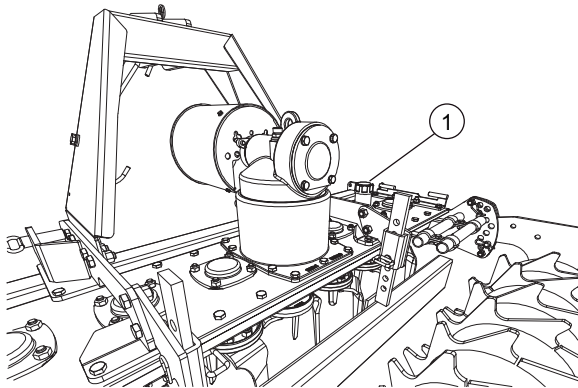

FIG. 27
Loosen the oil filler cap on the trough (1, “Fig. 27”).
- Loosen the oil filler cap (“Fig. 27”).
- Tighten the oil drain plug (3).